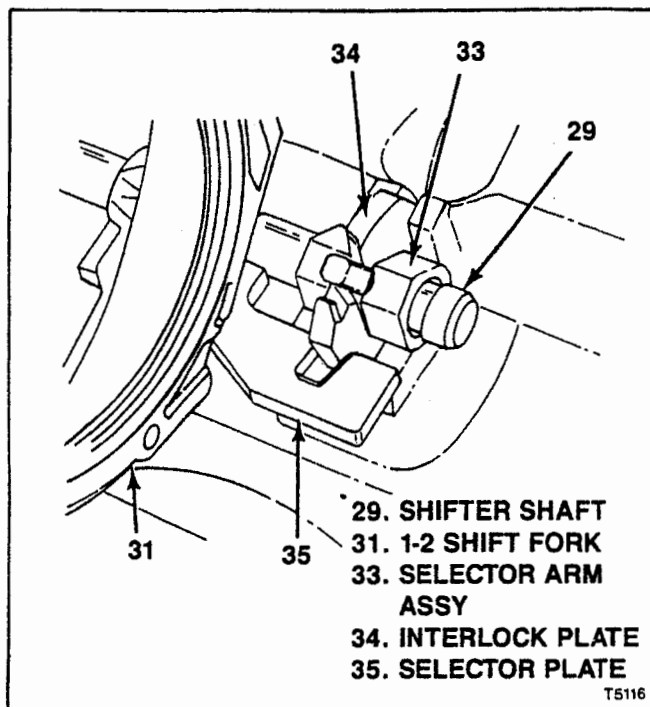

Figure 6-17. Installing T5 WC Selector Arm and Interlock Plate
f. Align gap in interlock plate (34) with projection on selector arm assembly (33) and install these parts in semi-circular groove in case cover (38). Continue to push in shifter shaft (29) until it is just through selector arm assembly (see figure 6-17).